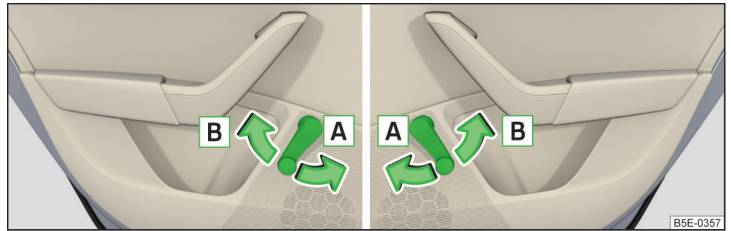

Fig. 61 **Window Operation: Left/right**
- To **open**, turn the crank in the direction of arrow  » Fig. 61.